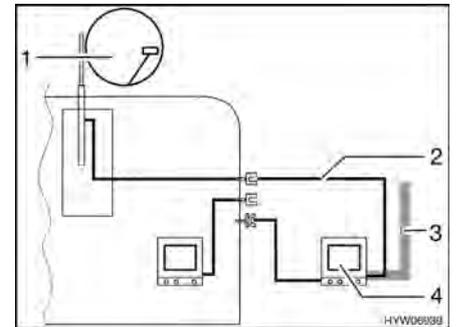

Fig. 120 TV in the awning
- TV inside the awning (Fig. 120,4): Connection to roof antenna (Fig. 120,1) with connection cable (Fig. 120,2)
- TV inside the awning (Fig. 120,4): Connection to external antenna (Fig. 120,3)